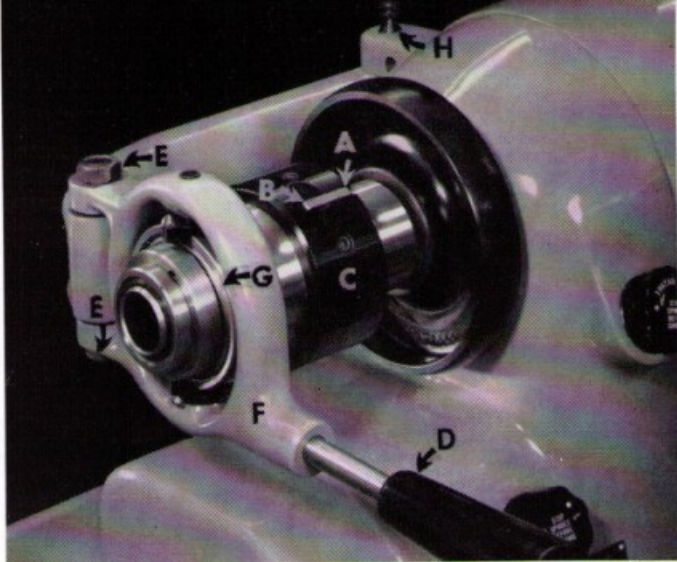

Figure 11
### ADJUSTING COLLET CLOSER — Figure 11
2. Open collet closer latch "A", Figure 11, by pressing down at point "B".
3. Engage the collet closer tube on the collet or step chuck and thread about two turns only. To turn the collet closer tube, the operator, using his left hand, turns the black shell guard "C", Figure 11, forward while he holds the collet or step chuck in place with his right hand.
5. Move lever "D", Figure 11, to the extreme left or closed position and then turn shell guard "C" toward the operator until it is drawn up as far as it will go by hand. If headstock spindle should turn, lock spindle by pressing in spindle lock pin "D", Figure 3, Page 12. To engage lock pin into notches provided, turn the spindle by hand until pin enters notch to lock.
The two adjusting screws and lock nuts located at "E", Figure 11, are set at the factory. By adjustment of lock nuts "E", lever yoke "F" is raised or lowered so there is no pressure on bearing "G".
## HOW TO REMOVE COLLET CLOSER — Figures 11 and 12
To remove the collet closer remove link pin "H", Figure 11. This pin is easily removed by the use of a mallet and brass punch, striking pin at bottom.
**CAUTION: DO NOT REMOVE COLLET CLOSER BY REMOVING SCREW "E",** Figure 11. This screw is adjusted properly at the factory for proper operation of collet closer. Remove link pin "H", Figure 11, only. After removing pin "H" remove collet closer as shown in Figure 12. It is then necessary to remove adjusting nut "A", Figure 12. This is done by pulling nut straight off end of spindle. **DO NOT TURN ADJUSTING NUT — IT IS NOT THREADED TO SPINDLE.**
Apply a film of light oil on rear of headstock spindle and apply adjusting nut "A", Figure 12. Apply a film of light oil on bearing section "B", Figure 12, of collet closer tube and slide closer on machine and insert link pin "H", Figure 11.